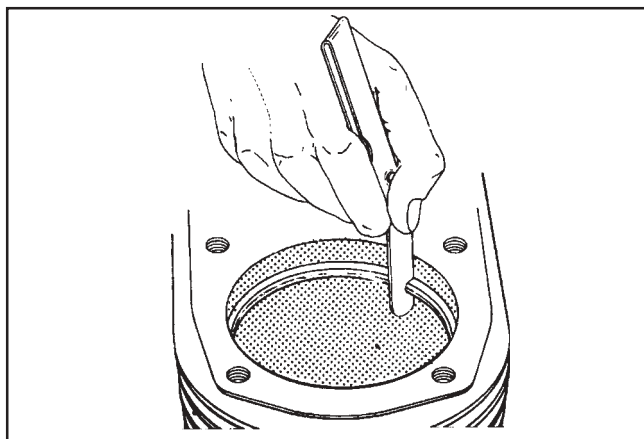

Figure 10-9. Measuring Piston Ring End Gap.
4. Before installing the new rings on the piston, place the top two rings, each in turn, in its running area in the cylinder bore and check the end gap. See Figure 10-9. Compare the ring gap to the specifications listed in Section 1.